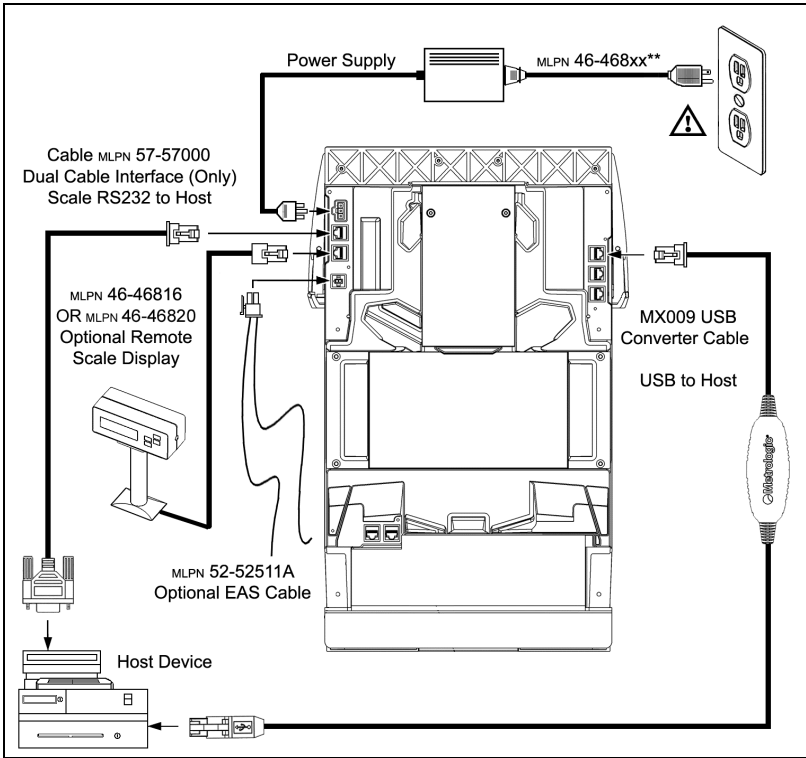

Figure 36. USB Cable Installation Schematic
2. Connect the USB/MX009 interface cable to the 2nd 10-pin socket on the bottom of the scanner near the serial number label. Refer to figure 36 on page 39.
Connect the scale/host cable to the 1st 10-pin socket on the bottom of the scanner next to the 3-pin Molex plug. Refer to figure 36 on page 39.